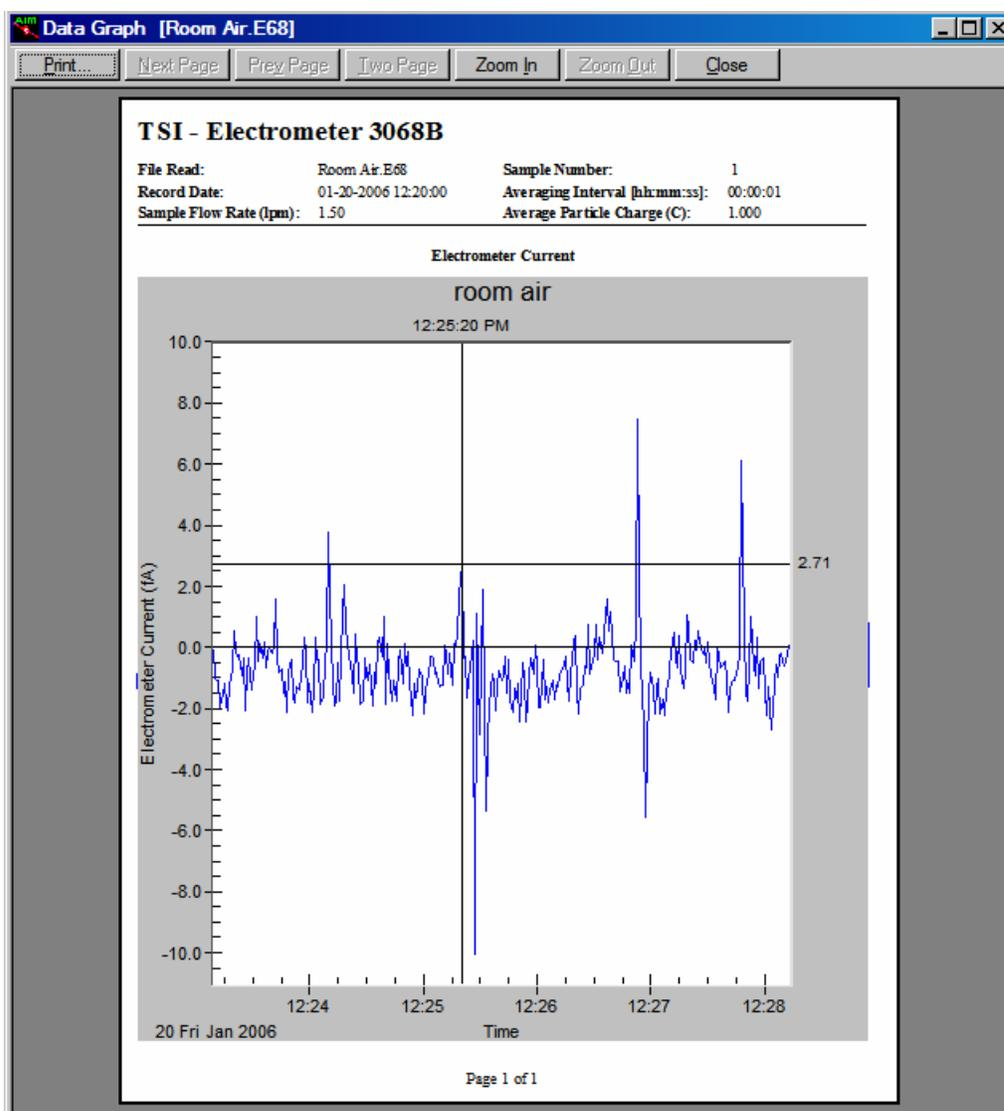

Figure 5-5
2. Review that what you see in the print preview window is what you want to print (an example is shown in Figure 5-5), and then select **Print** from the Preview box. The contents of the window are sent to your printer.